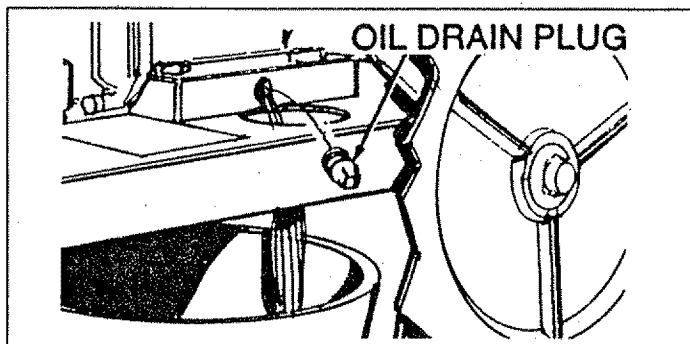

FIG. 7
- Clean area around oil drain plug, remove plug (Fig. 7) and drain oil completely into a suitable container. When oil has drained, install and tighten oil drain plug.